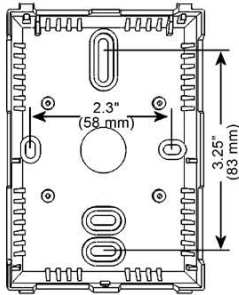

Fig. 1
- Room sensor installs directly onto a standard electrical box and should be mounted five feet from the floor. Do not mount near doors, opening windows, supply air diffusers or other known air disturbances. (Fig. 1)